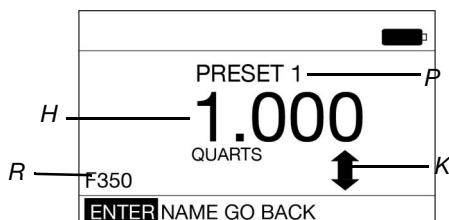

FIG. 46
2. The screen shown in Fig. 46 displays.
- P PRESET TITLE** - Identifies which preset option is being set up. The example in FIG. 46 shows PRESET1. This means the PRESET parameters for PRESET1 in the list are being set.
- R NAME** - Additional information about the PRESET, such as the type of engine or vehicle make/model, fluid type, etc. The example shown in FIG. 46 shows F350 in the NAME field on the display for PRESET1.
Be sure ENTER in the lower left corner of the display screen is highlighted (FIG. 46).
1. Use the UP AND DOWN ARROW on the keypad to increase or decrease the PRESET AMOUNT (H) (FIG. 46).
1. Use the RIGHT ARROW on the keypad to highlight NAME (FIG. 46). Press the center ENTER button on the keypad to select NAME.